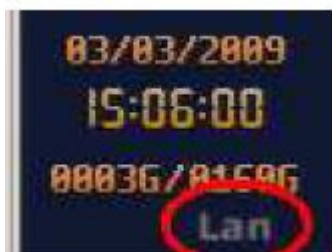

Fig. 7-9
5. The "LAN" status will become gray as **Fig. 7-9** , if the 3G connection is successful.